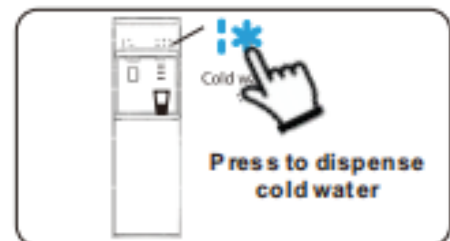

Fig 3
2. Gently touch the snow-shaped cold water button, the icon backlight will light up and beep, and cold water start to flow out; Touch the cold water button again can turn off the cold water flowing (**Fig 3**).